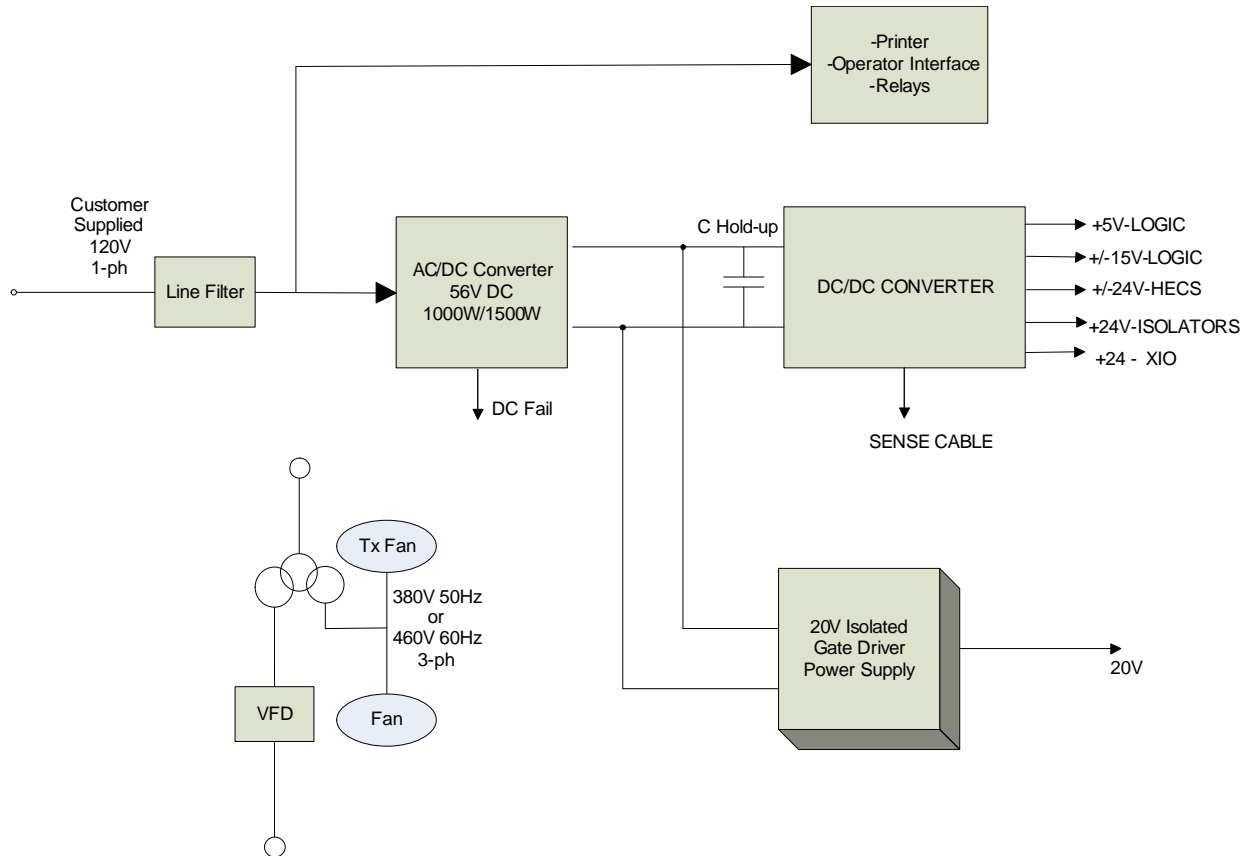

Figure 4.46 – 6-pulse / AFE Remote Transformer / Starter
2. Remote Transformer and Starter (refer to Figure 4.46)
Figure 4.46 illustrates the control power distribution for 6-pulse and AFE drives with remote transformer/starter or integrated line reactor with remote starter.